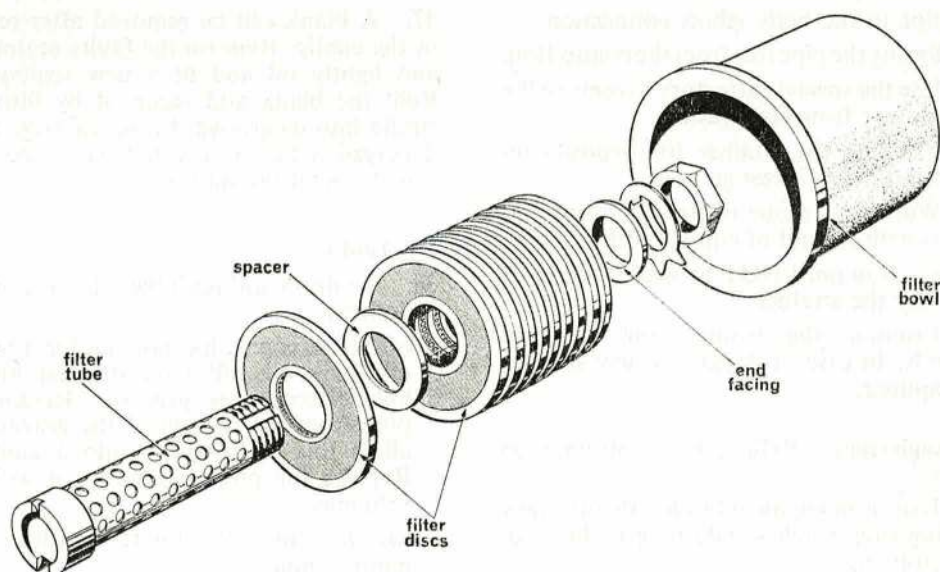

Fig. 4. OIL FILTER
31. **Removal and Cleaning.** The oil filter (Fig. 4) is removed and cleaned as follows: